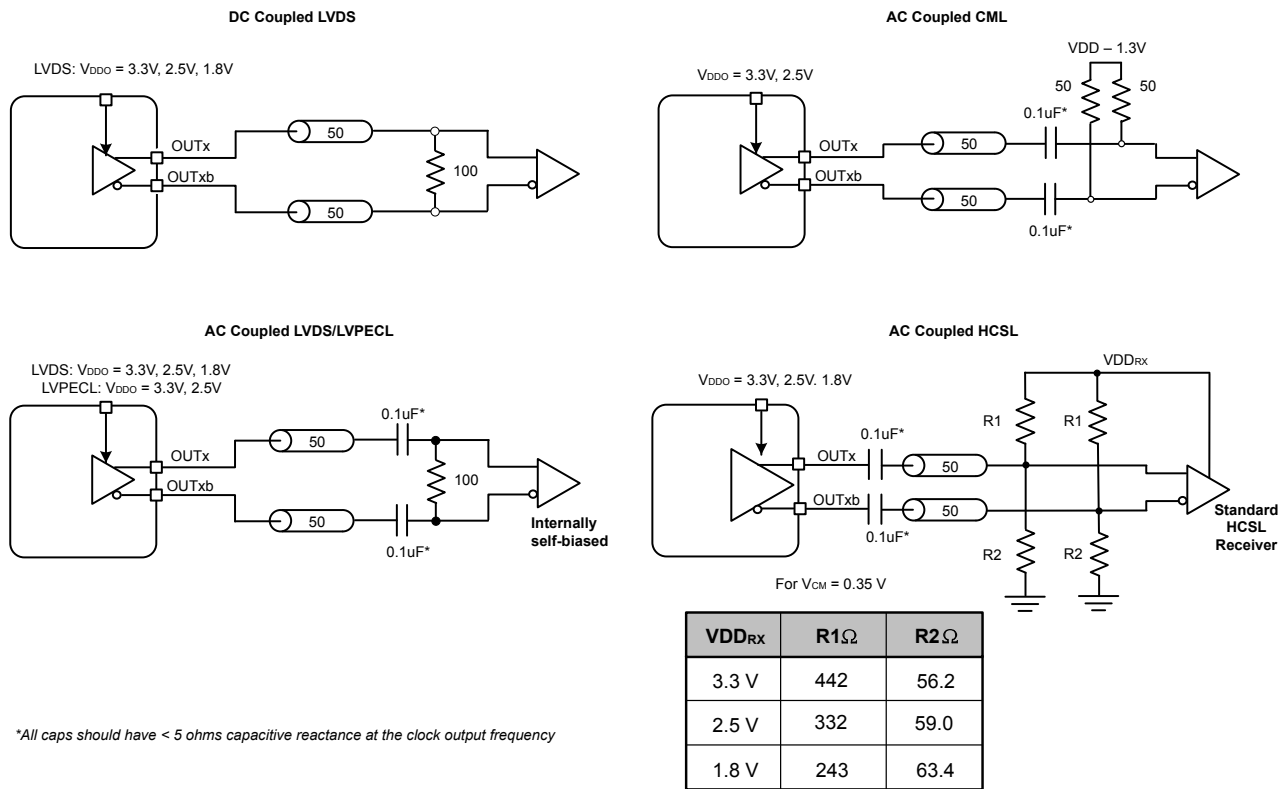

Figure 5.1. Supported Differential Output Terminations
2. Creates HCSL compatible signal. See Figure 5.1 Supported Differential Output Terminations on page 24.